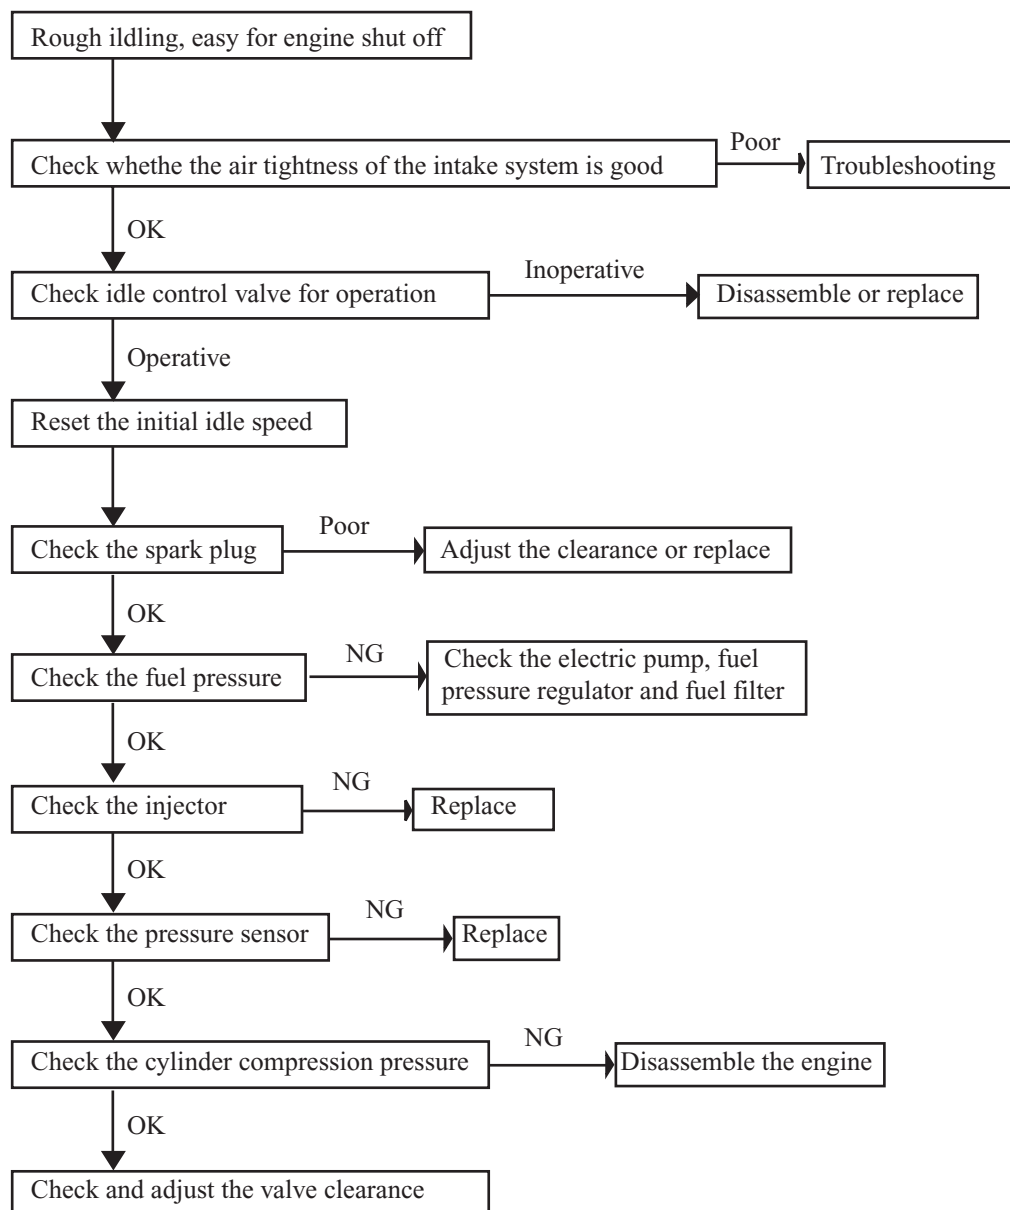

Figure 152
(3) Diagnosis procedure (Figure 152)